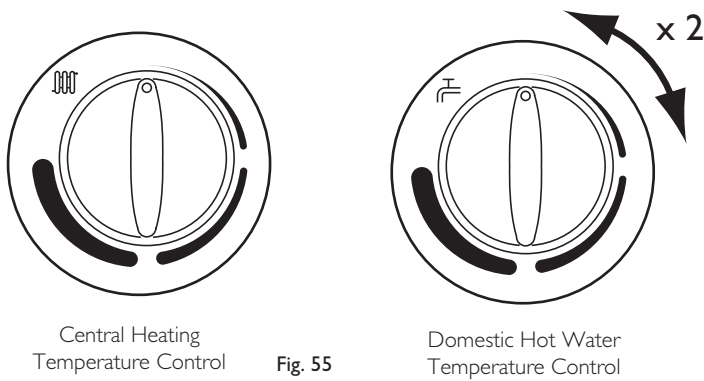

Fig. 55
3. Turn both temperature control knobs fully anticlockwise, then quickly turn the DHW temperature knob  $\frac{1}{4}$  clockwise twice and back fully anticlockwise (Fig. 55).